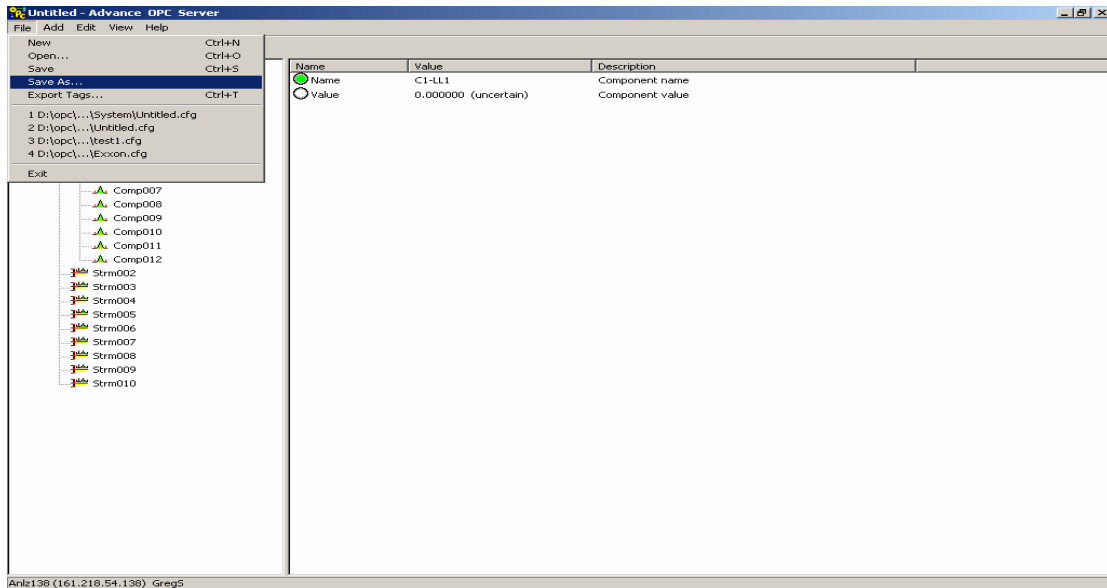

Figure 21
5. Save the Tag configuration file by selecting “File”, “Save As” from the Main Menu. (see Figure 21)